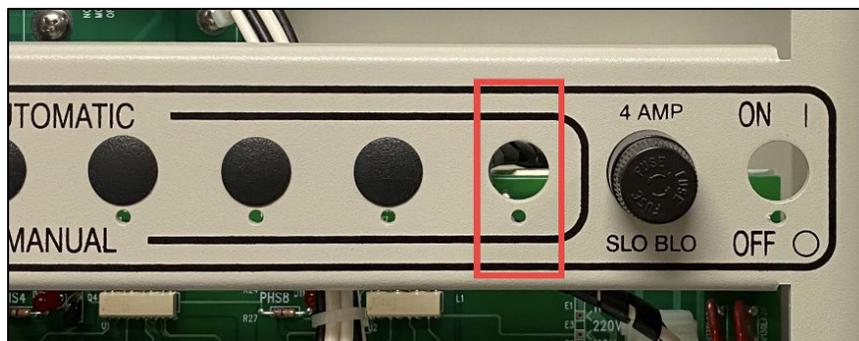

Figure 9 Removing the Eighth Position's Plug
- a. If using an older pedestal, remove the circular black plug from manual mode switch eight (Figure 9).